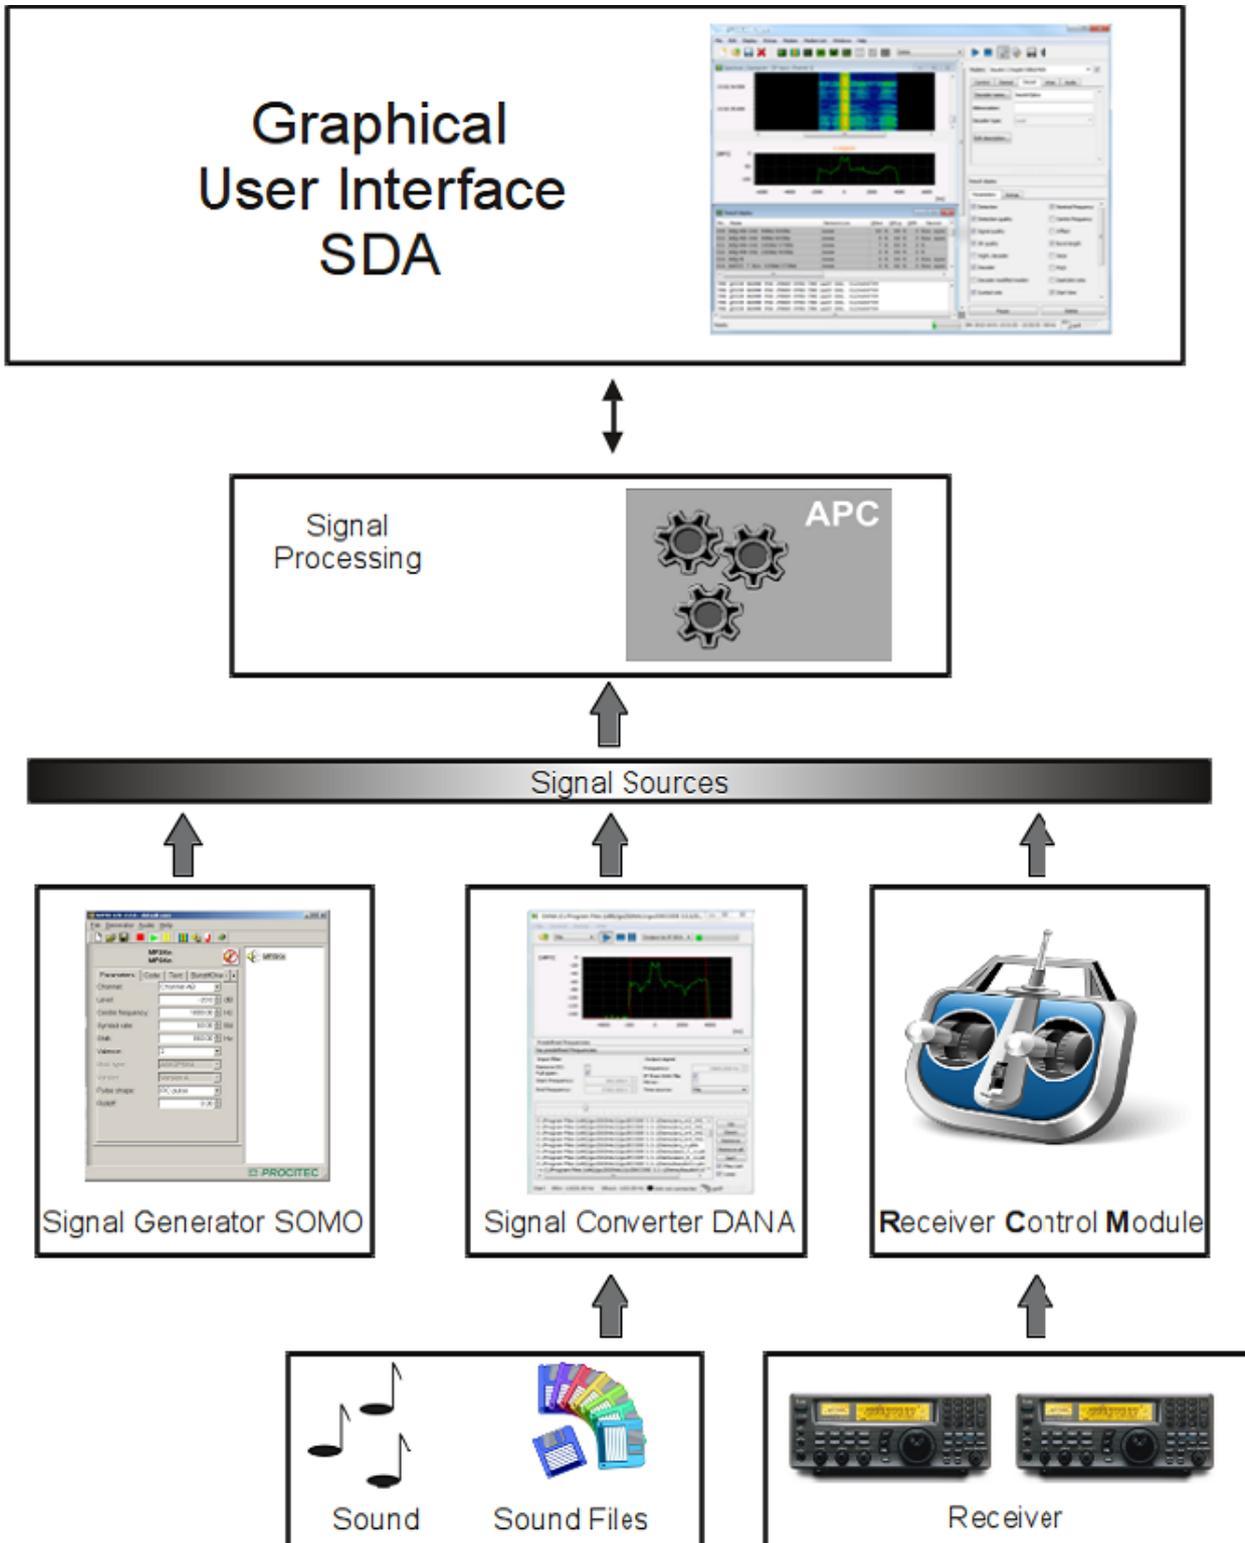

Figure 11.: Software Modules Overview
Figure 11 provides a functional overview of the software modules SDA, APC, DANA, RCM and SOMO, in combination with a selected range of potential signal sources.
**DANA** (Signal-Converter, center of Figure 11) is used as a signal converter and provides the module APC with the signal data in the required form of digital IF.
The module **APC** (central section of Figure 11) handles the processing of signals, from the recognition of modems via the demodulation and decoding up to the permanent production of the message content. APC is a background process without user interface.
The module **SDA** (see top section of Figure 11) carries out the numerous tasks involved in display and user interaction. On the one hand, it provides graphic displays of the results supplied by the module APC; on the other hand, the user can edit parameters to control the operating mode of the APC.